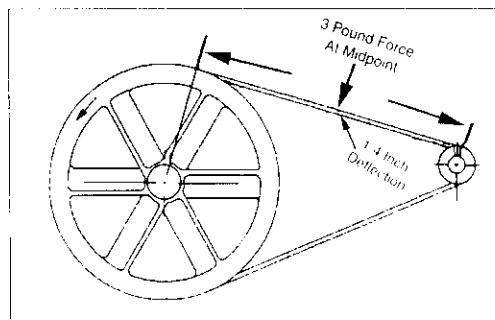

Fig. 10
3. Measure correct belt tension. Proper tension is achieved when a three (3) pound weight or equivalent finger pressure applied midway between the motor pulley and compressor flywheel causes a 1/4" deflection of the belt. Refer to Figure 10.
7. Visually inspect the engine drive pulley to verify that it is perpendicular to the drive motor shaft. Points B1 and B2 of Figure 10 should appear to be equal. If they are not, loosen the setscrew of the engine drive pulley and equalize B1 and B2, using care not to disturb the belt alignment performed in step 2.